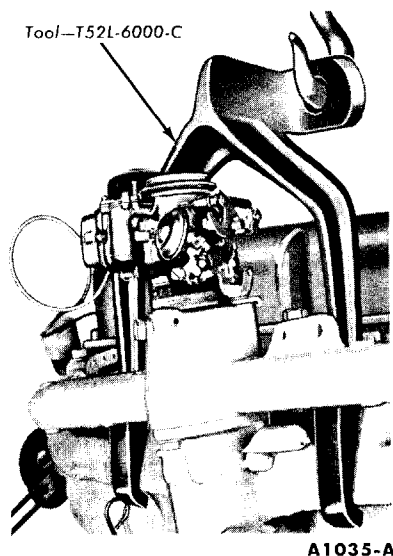
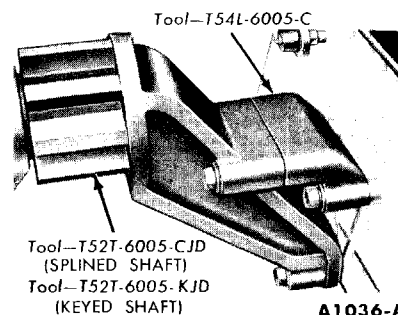

FIG. 8—Engine Lifting Hook
FIG. 9—Engine Mount
15. Attach the engine lifting hook (Fig. 8). Raise the engine slightly, then carefully pull it from the transmission. Lift the engine out of the chassis, then install it on a work stand (Fig. 9).